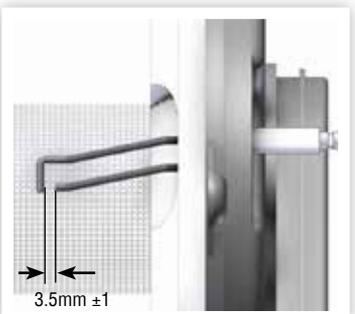

FIGURE 36. ELECTRODE GAP
- 17.7.5 Brush off any deposits that may be on the burner with a soft brush. Inspect the ignition/detection electrode and check the electrode gaps. See Figure 36.